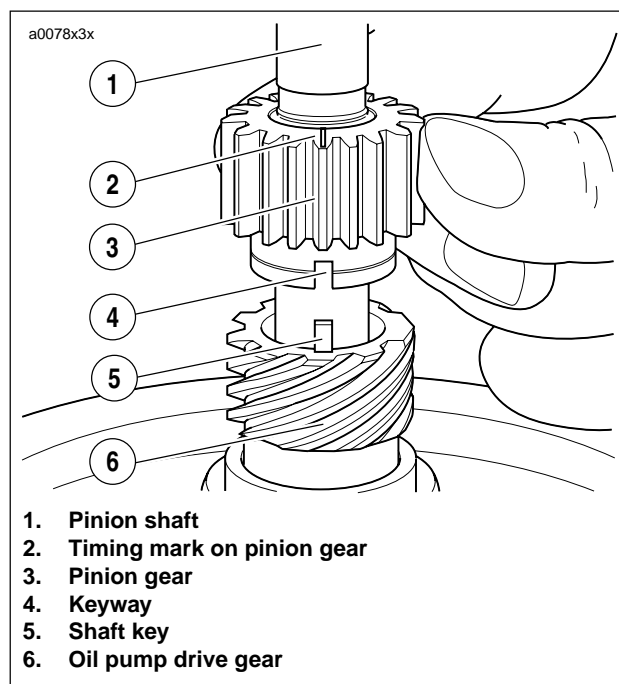
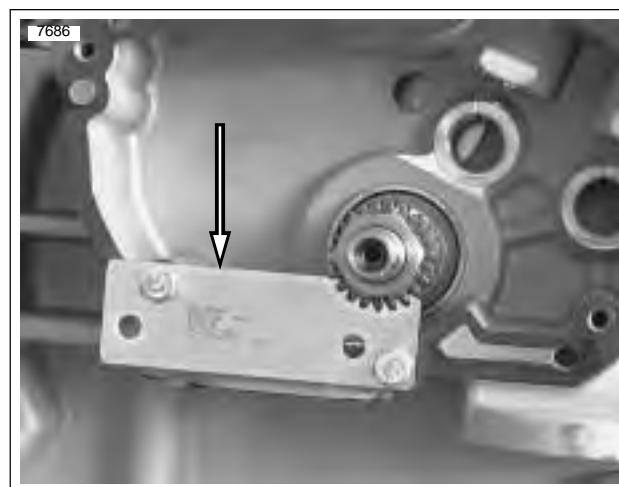

Figure 3-105. Aligning Pinion Gear
Figure 3-106. Crankshaft Locking Tool (HD-43984)
1. See Figure 3-105. Install oil pump drive gear (6) and pinion gear (3) on pinion shaft (1).
- a. Install shaft key (5) into pinion shaft slot.
- b. Slide oil pump drive gear (6) over pinion shaft (1). Drive gear must align with shaft key.
- c. Align keyway (4) in ID of pinion gear with shaft key.
- d. Slide pinion gear (3) over shaft key (5) and against oil pump drive gear (6).
2. See Figure 3-106. Install nut.